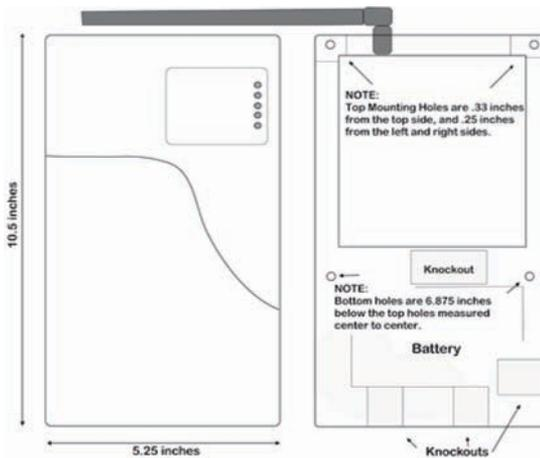

FIGURE 2: Inside & Outside Mounting Dimensions for the 4530
5. Position the bottom of the 4530 enclosure where it will be installed. Use four (4) #6 screws and mount the unit using the four holes in the enclosure's plastic bottom. The 4530's dimensions are shown in Figure 2.